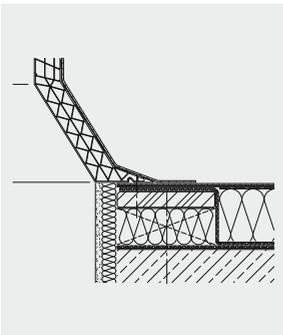

Figure 1
- The kerb is installed on a batten frame or similar suitable supporting construction. The batten frame opening size must correspond with the nominal size (= roof opening size) of the kerb. Any batten frame linings on the inner side (normally 2-3 cm on each side) need to be taken into account (see fig. 1).
- If the kerb is installed on an EVALON® or EVALASTIC® waterproofing membrane extending up to the inner edge (opening) of the batten frame, no additional perimeter fixing of the waterproofing (so called measures for taking up horizontal forces) will be required (see fig. 1).